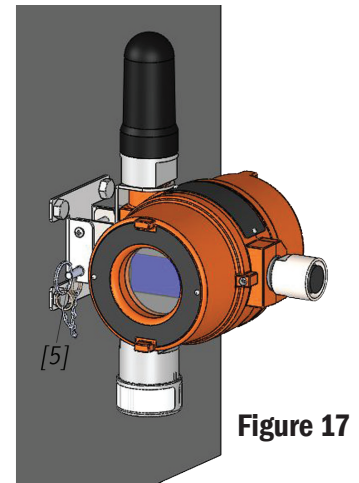

Figure 17
4. Push attached pin [5] through bottom holes to secure device to the bracket (see Figure 17).